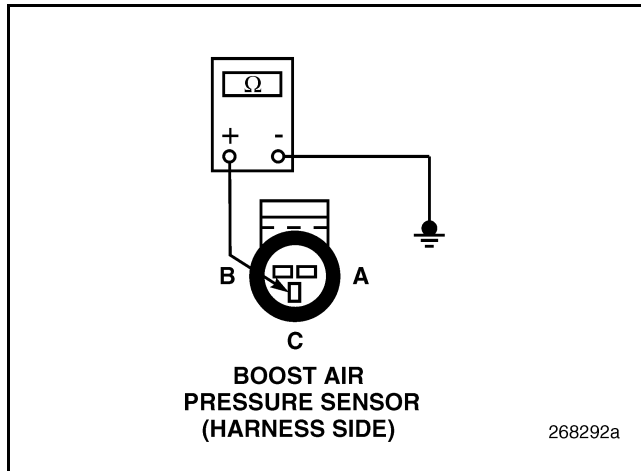

Figure 181
2. Check for continuity between Boost Air Pressure (BAP) Sensor harness connector pin C (signal line) and a good ground (see Figure 181).